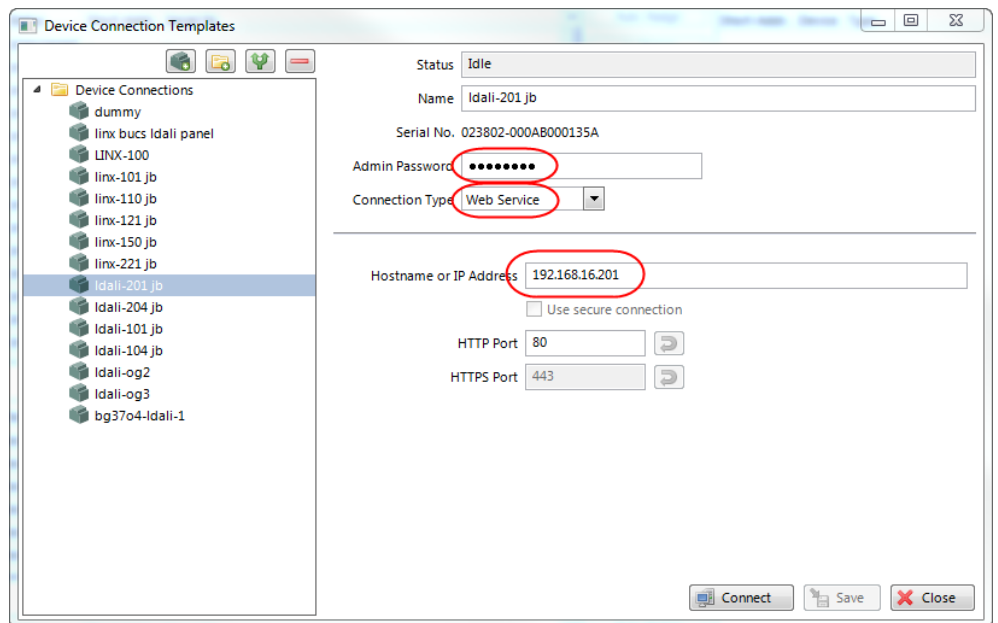

Figure 14: LINX Configurator software, Connection Dialog.
2. In the Connection dialog (see Figure 14) choose connection type “Web Service”, enter the IP address or hostname of the L-DALI and the devices “admin” password. The default “admin” password is ‘loytec4u’ (older firmware versions used ‘admin’).